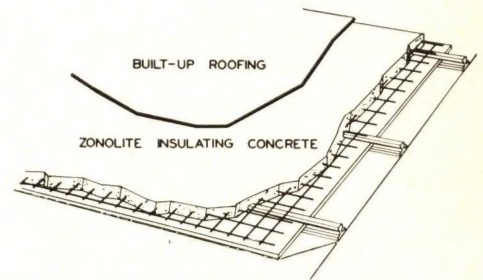

Fig. 4 — Zonolite Concrete over board forms.
- Good "U" values are obtainable with these systems, as shown in the tables. A 4 inch thickness of 1:4 Zonolite Concrete over form board (see Fig. 4) has a "U" factor of .12.